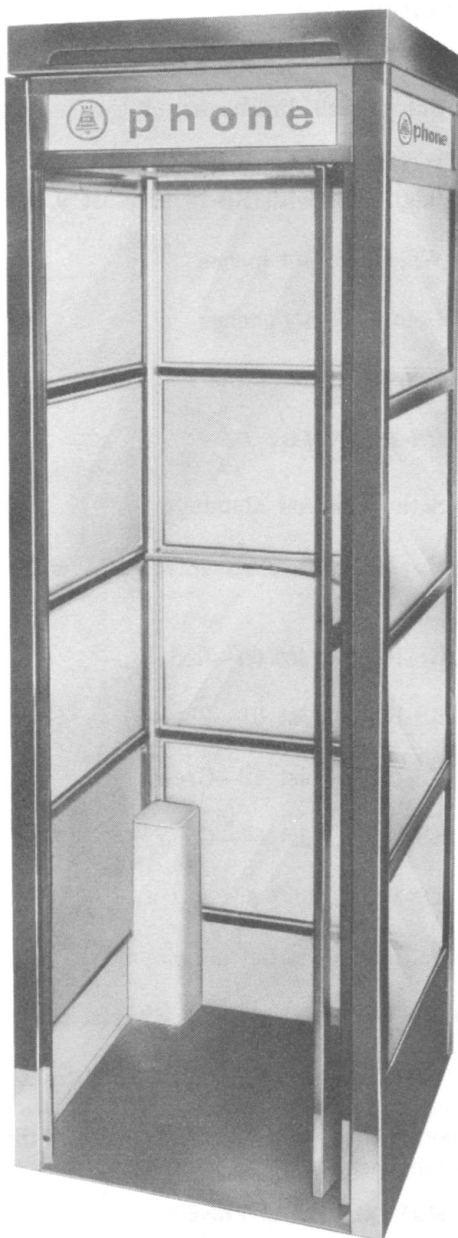

Fig. 1—KS-16797, List 1 Booth
1.02 The KS-16797 booth (Fig. 1) is a compact aluminum and glass telephone booth suitable for indoor or outdoor use in single or multiple installations. It is equipped with an aluminum alloy floor.